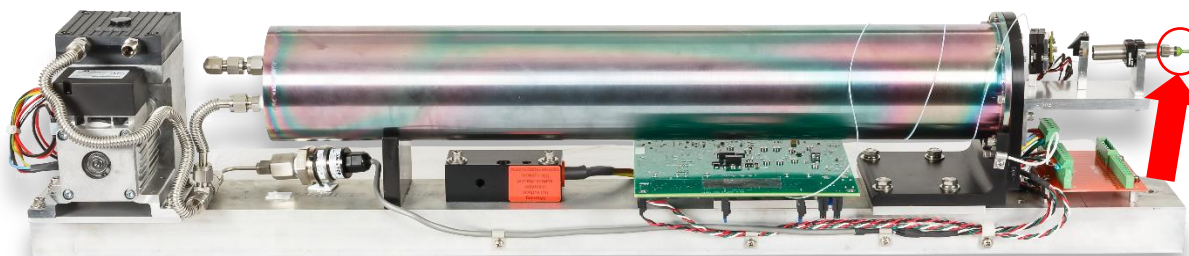

Figure 58: Location of the Fibre Optic Connector
9. Locate the fibre optic connector shown in Figure 58.